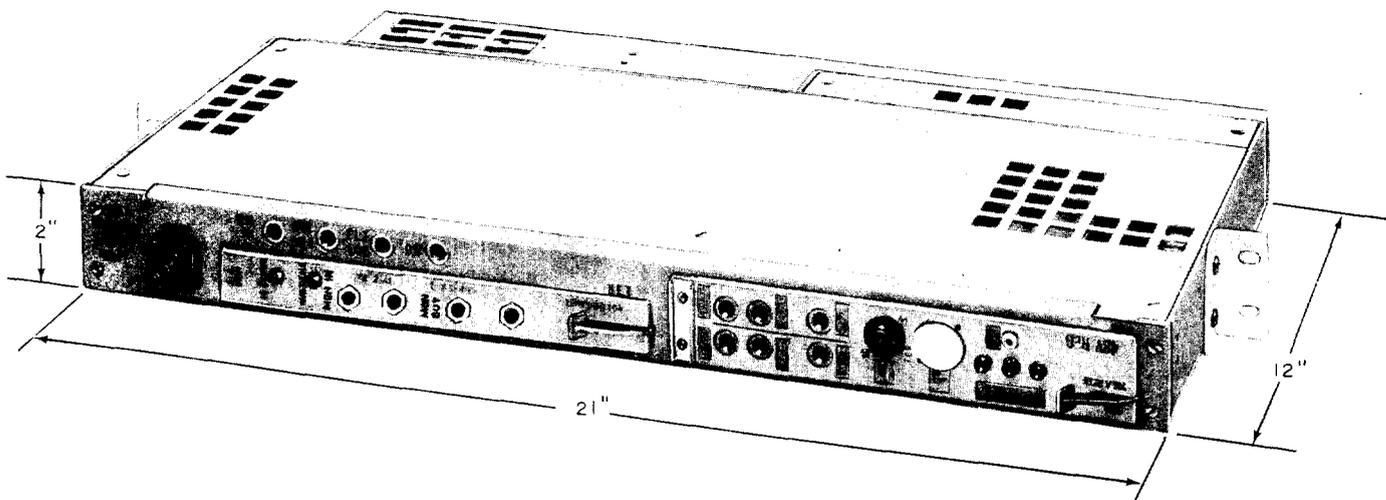

Fig. 1—551A Channel Service Unit—Front View
**1.03** The CSU, Fig. 1, is located on customer premises and provides the customer with a transmit and receive pair using the standard T1 bipolar signal format. The customer's data signal must satisfy the pulse density and zero sequence constraints dictated by the T1 facilities. Circuitry is provided to monitor the customer's data input and, if necessary, add pulses (all 1s) to meet the requirements of the T1 facilities.